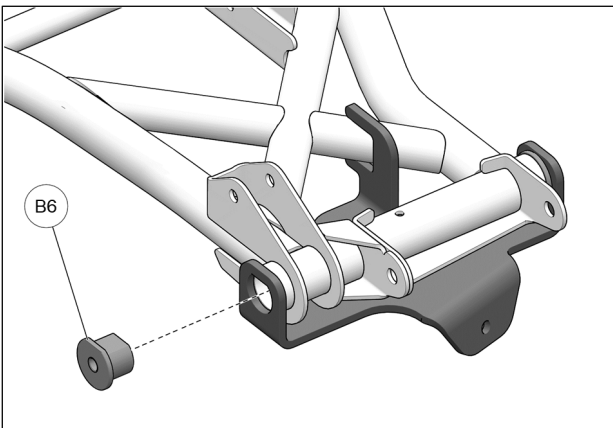

Fig. 7
8. Insert the threaded T-Bushing (**B6**) through anchor bracket, and in suspension arm. See Fig. 7